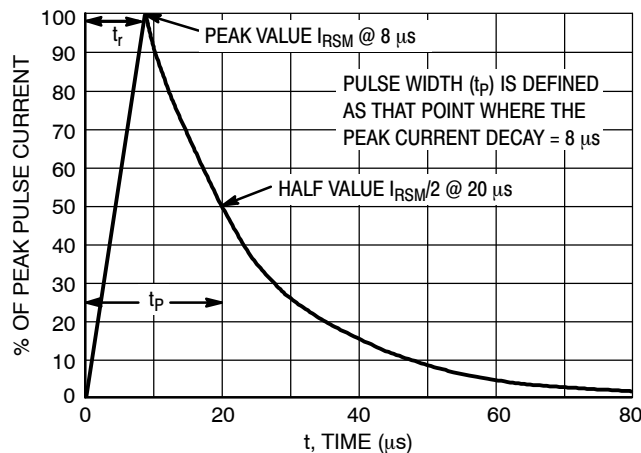

Figure 28. 8 X 20  $\mu$ s Pulse Waveform
- Surge current waveform per Figure 28 in ESD paragraph.